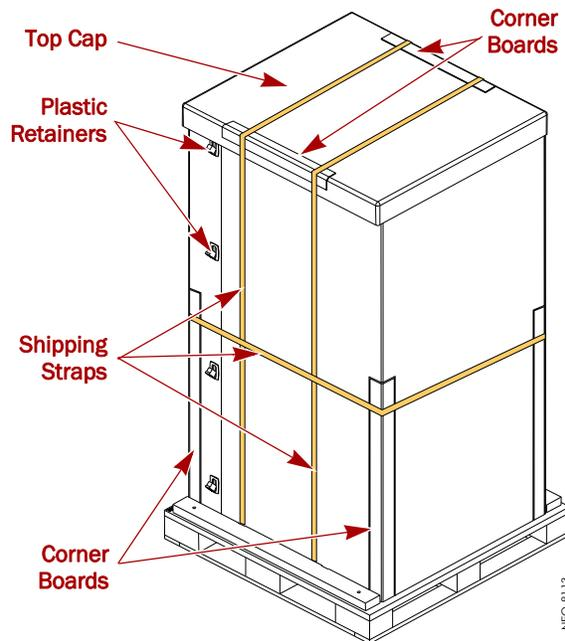

Figure B-8: Library Packaging Components
- c. Add the two (2) **pads on top** of the library to secure the side boxes.
2. Add the outside packaging (Figure B-8).
- d. Position the two (2) short **reinforcing corners** on the sides of the top cap.
5. Position the four (4) long **reinforcing corners** at each corner of the box (Figure B-8).